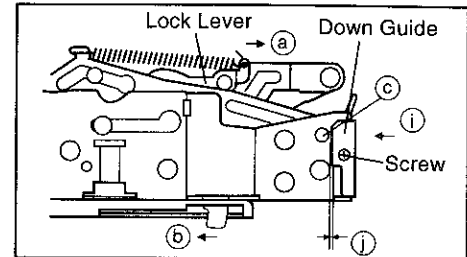

Figure 5. Lock lever section
- (1) Set the unit to the EJECT mode, and let the housing stand upright. Or set the unit to the STANDBY mode, press the lock lever in the arrow direction, and let the housing stand upright. (See Fig 5: in the direction (a) or (b)) (When pushing in the direction (a), slightly lift the housing by hand to release the lock lever.)
- (2) Remove the four screws (2) and take out the down guide (3).
- (3) Slide the two link support shafts (c) and the two roller shafts (d) to the round openings (g) on their respective slide chassis slits (two at (e) and two at (f)).
- (4) Deflect the roller shafts (d) a little inward to get them out of the round openings (g) on the slide chassis. (Be careful not to deform the inner links.)